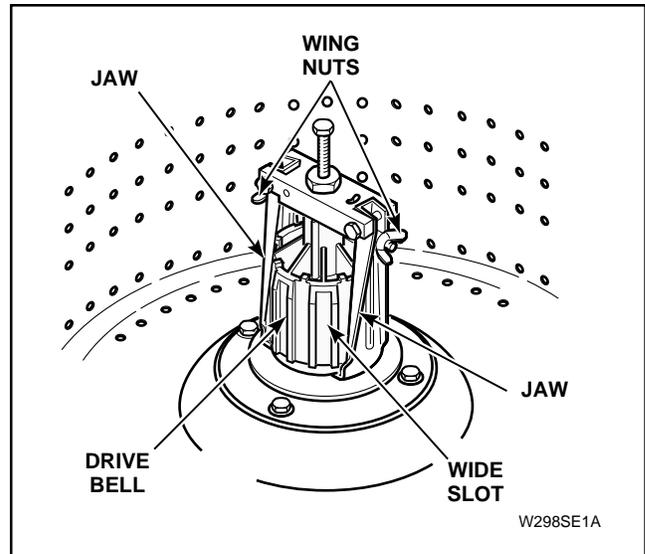

Figure 25
- Place tool over drive bell, making sure indent on jaws line up with side slots on drive bell, *Figure 25*.
- Place lip of each jaw under bottom edge of drive bell, making sure indent on jaws line up with wide slots on drive bell. Tighten wing nuts on tool to hold jaws firmly against drive bell, *Figure 25*.